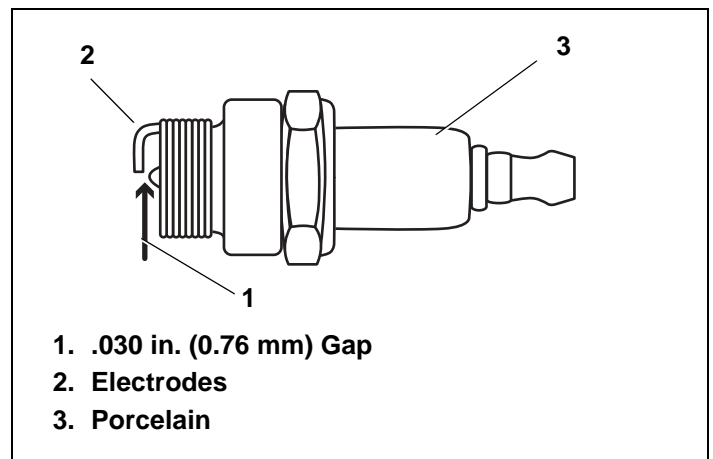

Figure 31. Resistor Spark Plug
4. Check electrode gap with wire feeler gauge and set gap to—.030 in. (0.76 mm) if necessary. See Figure 31.